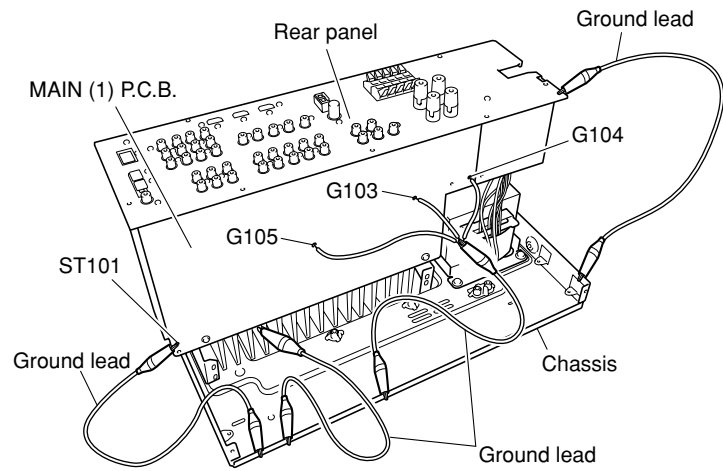

Fig. 5
- d. Place the P.C.B.s (with rear panel) upright. (Fig. 5)
- e. Connect the ground of heat sink, rear panel and MAIN (1) P.C.B. (G103, G104, G105 and ST101) to the chassis with a ground lead or the like. (Fig. 5)
2. Press the "STANDBY/ON" key while simultaneously pressing the "STRAIGHT" and "AUDIO SELECT" keys. (Fig. 5)